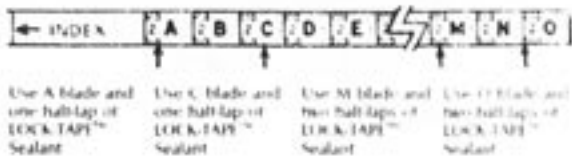
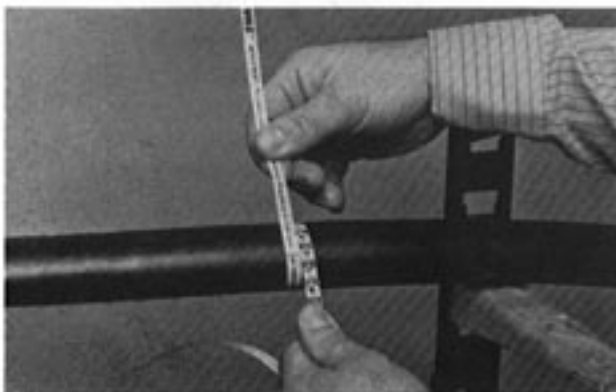

FIGURE 3 - CABLE MEA-SURE™ TAPE
FIGURE 4 - MEASURING CABLE WITH MEASURING TAPE
- It designates either one or two half-lapped layers of 1-1/2" LOCK-TAPE Sealant to be wrapped around the cable. (Figure 3, Figure 4).
PLP TIP: If the index falls on the line between areas, proceed as if the index line had fallen immediately to the right of the indexed line. (Refer to Figure 4).